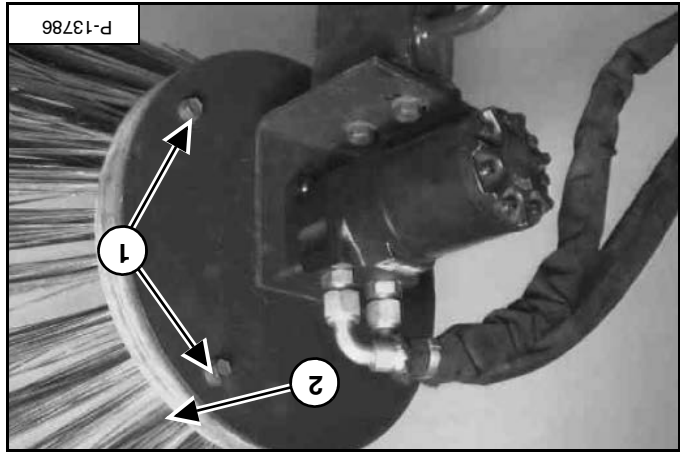

Figure 139
bristle assembly (item 2) [Figure 139].
and tighten the four mounting bolts (item 1) [Figure 139]